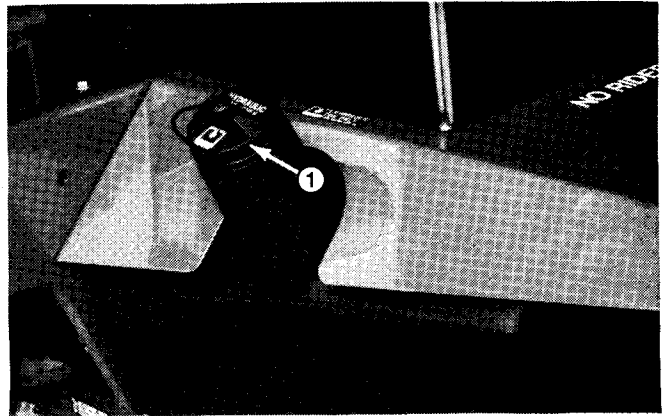

Figure 99
2. Put drain pan under reservoir (Fig. 99). Remove drain plug from bottom of reservoir and let oil drain into pan. Install drain plug.